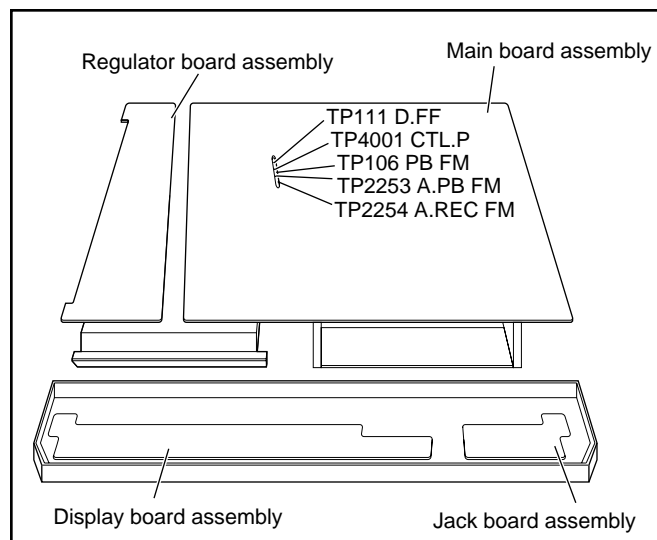

Fig.2-2a
- (1) Refer to the disassembly procedure and perform the disassembly of the major parts before removing the Mechanism assembly.
- (2) Remove the screws that fix the Mechanism, Regulator board assembly to the bottom chassis. If any other screws are used to fix the boards, remove them also.
- (3) Remove the combined Mechanism, Regulator board and Main board assemblies.
- (4) If any other major parts are used, remove them also.
- (5) Connect the wires and connectors of the major parts that have been removed in steps (1) to (4). (Refer to Fig. 2-2a.)
- (6) Place the combined Mechanism, Main board and other board assemblies upside down.
- (7) Insert the power cord plug into the power outlet and then proceed with the diagnostics and servicing of the board assembly.